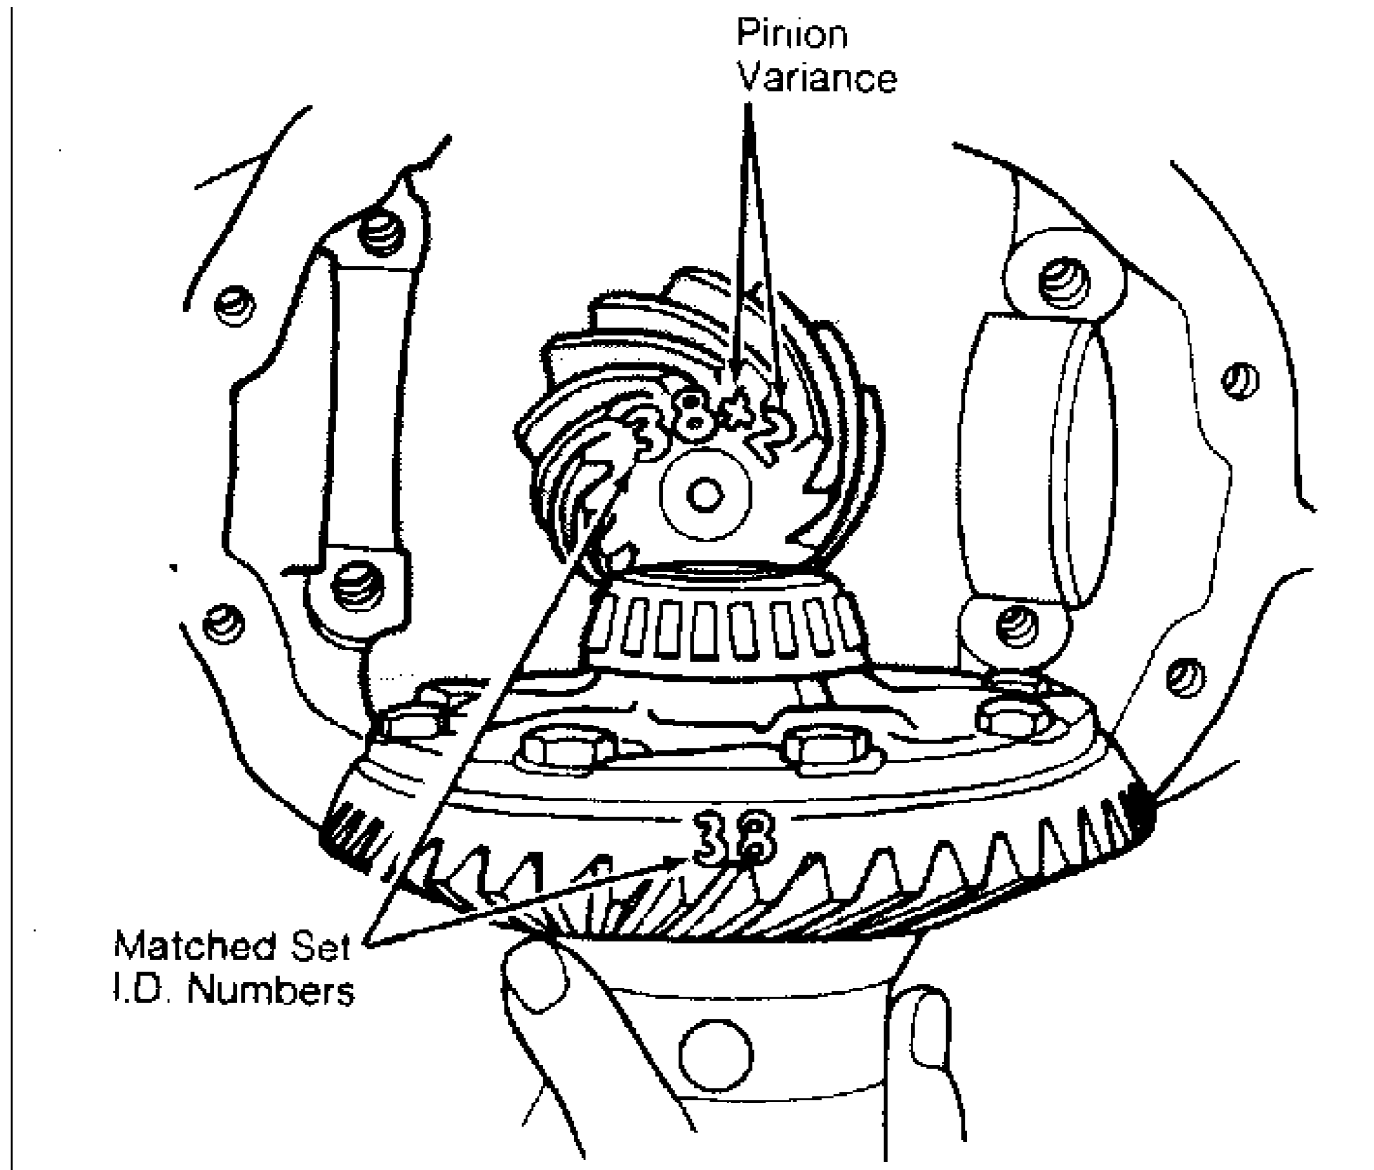

Fig. 7: Matching Ring & Pinion Gear Set
NOTE: Ring and pinion gears are serviced as matched set only. They are identified by numbers etched on gear and pinion. See Fig. 7. First number (2 or 3 digits) identifies matched set. Second number on pinion gear (preceded by a "+" sign) is pinion depth variance. This number indicates amount (in thousandths of an inch) gear set varied from standard setting. See PINION GEAR STANDARD DEPTH SPECIFICATIONS table.
- 2) Check numbers etched on drive pinion and ring gear. Measure thickness of original pinion shim. Note variance number on pinion gear. See Fig. 7. Note where old and new pinion marking columns intersect on chart. See Fig. 8.